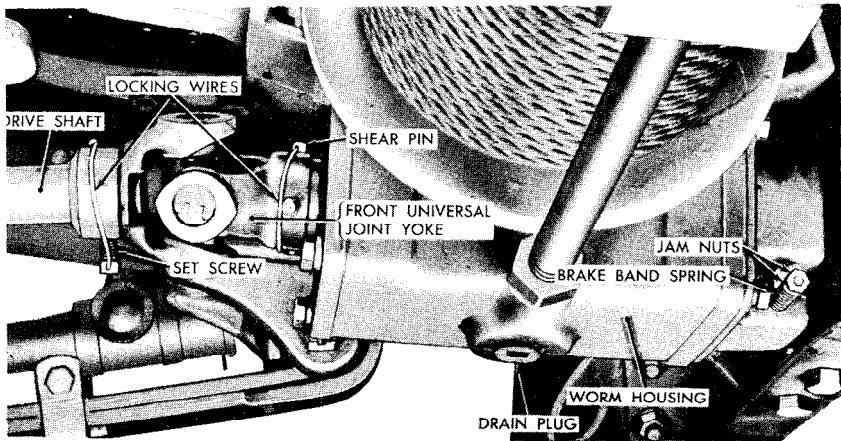

Figure 153. Winch—bottom view.
- (1) If the drive shaft is equipped with a collar, remove the locking wire from the collar setscrew at rear universal joint, loosen the setscrew, and slide the collar forward.
- (2) Remove the locking wire (fig. 153) from the drive shaft shearpin (fig. 153) and remove the shearpin.
- (3) Slide the front universal joint yoke (fig. 153) toward the rear far enough to clear the wormshaft.
- (1) Remove the outer jammnut (fig. 153) from the brake band end.
- (2) Insert a long punch through the shearpin hole in the worm-shaft. Oscillate the shaft with the punch and at the same time tighten the inner jammnut on the brake band end until a
- (1) Remove the punch from the shearpin hole in the wormshaft and position the universal joint front yoke on the wormshaft, alining the shearpin holes. Install the shearpin and secure with locking wire (fig. 153).
- (2) If the drive shaft is equipped with a collar, position the collar to provide $\frac{5}{8}$ -inch clearance between the collar and the
- (2) Remove the locking wire from the shearpin (fig. 153) and remove the shearpin. Push the shaft and assembled parts to the rear, and remove the front universal joint yoke (fig. 153) from the wormshaft.
- (3) Remove the 10 bolts and lockwashers that secure the winch brackets to the frame side rails and front bumpers, and raise the left side of the winch sufficiently to permit removal of the drive shaft.
- (4) Pull the shaft forward to disengage the splined end of the shaft from the front yoke of the rear universal joint, and remove the shaft. Remove the collar (if so equipped) as the shaft is removed.
- (5) Remove the locking wire from the setscrew in the rear universal joint yoke, loosen the setscrew, and remove the universal joint from the power-take-off. Remove the woodruff key from the power-take-off shaft. Remove the front universal joint from the drive shaft in the same manner.
- (1) Install a No. 817 or 127 woodruff key in the keyway at the front end of the drive shaft. Install the rear yoke of the front universal joint on the shaft, alining the keyway in the yoke with the key. Install the setscrew, tighten, and secure with locking wire (fig. 153).
- (2) Install the rear universal joint on the power-takeoff drive shaft in the manner described in *c(1)* above.
- (3) Apply a light coating of automotive and artillery grease to the splines of the drive shaft. With the winch raised as in *a(3)* above, insert the splined end of the shaft through the opening in the frame reinforcement from the front. Install the collar on the shaft (if so equipped), and insert the shaft in the front yoke of the rear universal joint, alining the journals of both universal joints. Push the shaft and assembled parts toward the rear.
- (4) Lower the winch into position and aline the front universal joint front yoke with the wormshaft. Install the yoke on the wormshaft, alining the shearpin holes. Install the shearpin and secure with locking wire.
- (5) Install the six $\frac{1}{2}$ -inch lockwashers and $\frac{1}{2}$ -20NF x $1\frac{3}{8}$ bolts for the winch frame brackets and four $\frac{1}{2}$ -inch lockwashers and $\frac{1}{2}$ -20NF x 1 bolts for the bumper brackets. Tighten the bolts evenly.
- (6) If the drive shaft is equipped with a collar, position the collar to provide $\frac{5}{8}$ -inch clearance between the collar and the front end of the universal joint yoke, tighten the collar setscrew, and secure with locking wire.